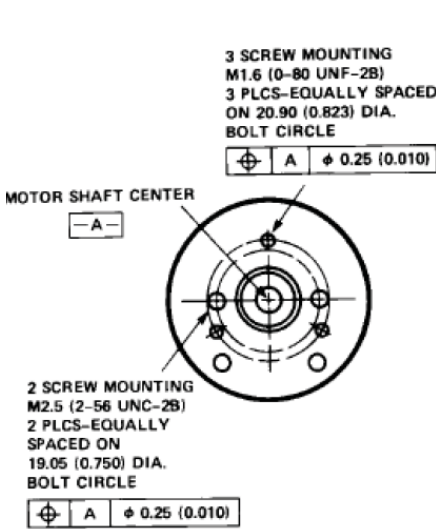
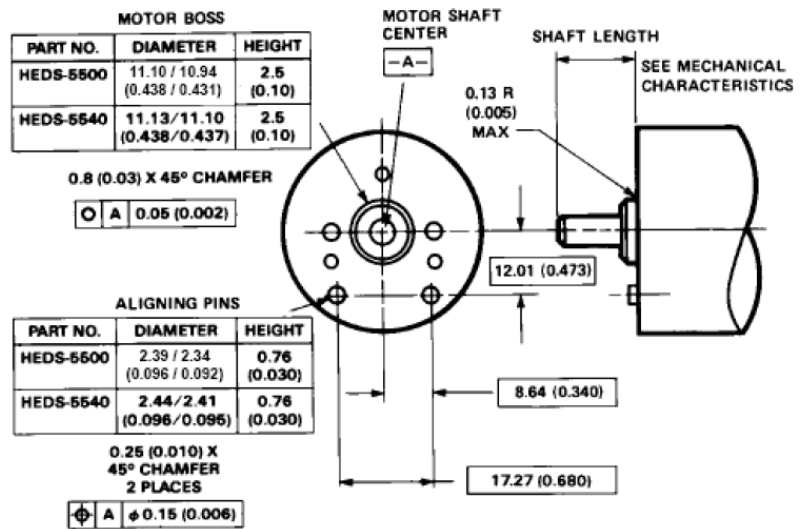
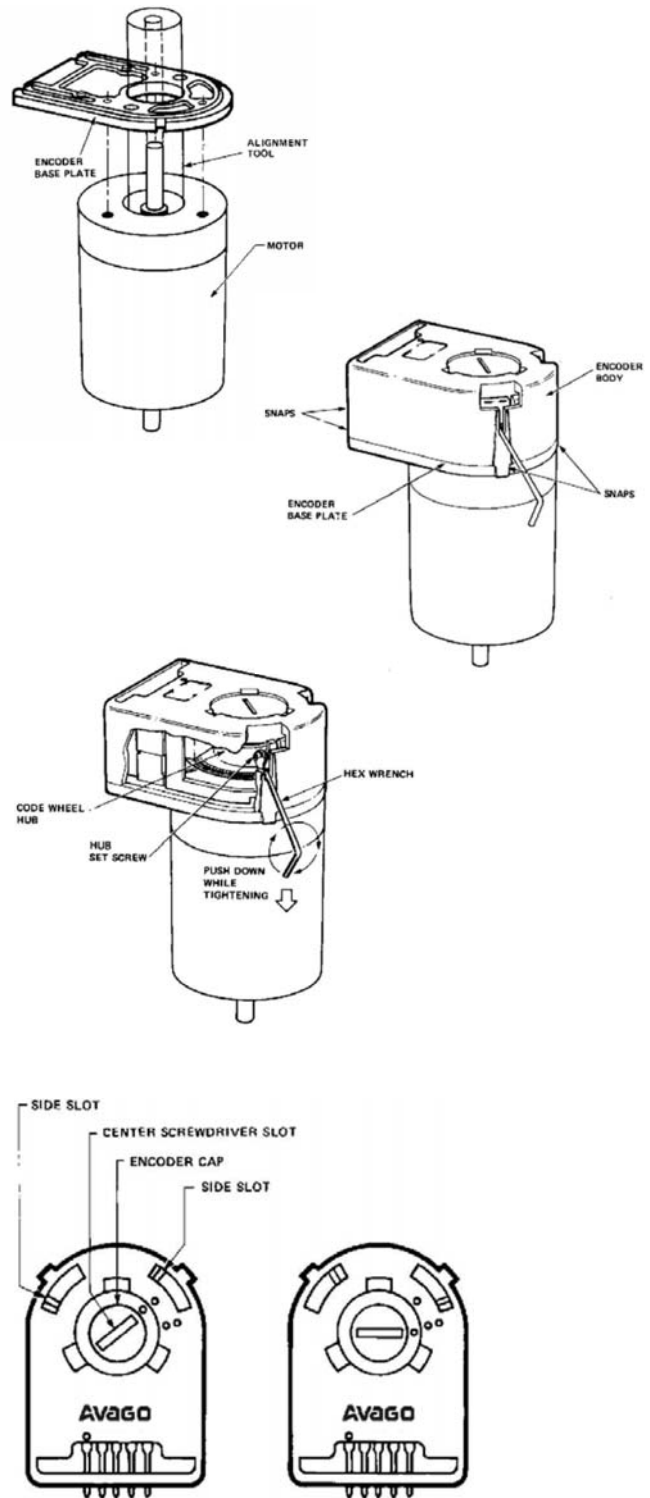

Figure 2. Mounting Holes.
Figure 3. Optional Mounting Aids.
Figure 4. Mounting with External Ears.
3. The HEDS-5540 and 5640 must be aligned using the aligning pins as specified in Figure 3, or using the alignment tool as shown in "Encoder Mounting and Assembly". See also "Mounting Considerations."
The HEDS-5540 and 5640 three channel encoders and the HEDM Series high resolution encoders must be aligned using the aligning pins as specified in Figure 3, or using the HEDS-8910 Alignment Tool as shown in Encoder Mounting and Assembly.
additional mounting bosses, the encoder output errors will be within the maximums specified in the encoding characteristics section. The HEDS-5500 and 5540 can be mounted to a motor using either the two screw or three screw mounting option as shown in Figure 2. The optional aligning pins shown in Figure 3 can be used with either mounting option. The HEDS-5600, 5640, and HEDM-5600 have external mounting ears which may be used for mounting to larger motor base plates. Figure 4 shows the necessary mounting holes with optional aligning pins and motor boss.